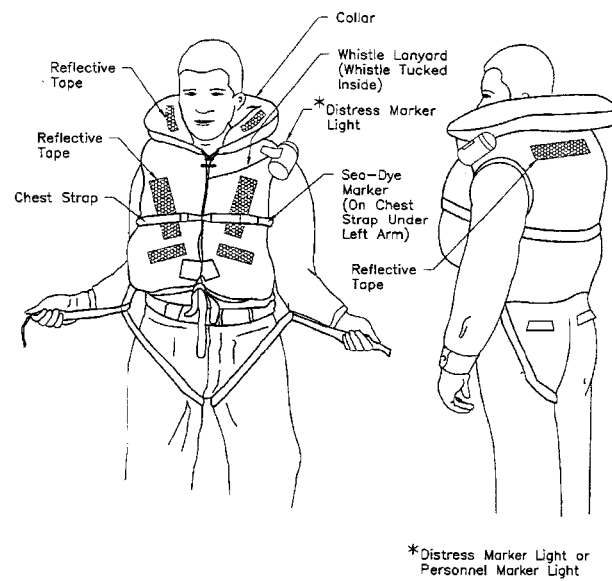

Figure 077-2-1. Inherently Buoyant Vest Type Life Preserver with Collar
**077-2.2.2.1 Construction.** The inherently buoyant type I life preserver is illustrated in Figure 077-2-1 with its major components and accessories identified. The vest type life preserver consists of a cotton cover which encloses removable plastic foam or fibrous glass flotation pads. There are four pads in the front sections, one in the back, and one in the collar. The pads are removable through zipper openings to permit laundering of the cover.
**077-2.2.2.1.2** Reflective tape is sewn to the cover on the front, back, and collar. Details for attaching reflective tape to the cover are discussed in paragraph 077-2.5.5. Ship's force shall stencil the ship's name and hull number on the back of each life preserver in 2-inch high, black, block letters. A loop is provided on the left shoulder of the life preserver for attachment of the distress marker light or personnel marker light (PML) and the whistle lanyard. The sea-dye marker should be attached to the life preserver by tying it around the left (non-adjustable) chest strap so the marker lies under the left arm when the life preserver is worn. See Figure 077-2-1 for placement of life preserver accessories.